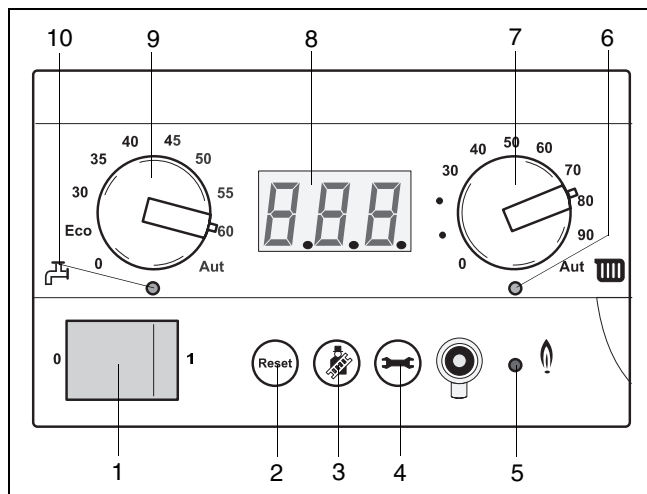

fig. 37 BC10
Mains switch (→ fig. 37, item 1)
Reset button (→ fig. 37, item 2)
Chimney sweep button (→ fig. 37, item 3)
Service Button (→ fig. 37, item 4)
LED "burner on" (→ fig. 37, item 5)
Setting the flow temperature (→ fig. 37, item 7)
The knob with the radiator symbol (→ fig. 37, item 7) allows the installer to set the maximum flow temperature (→ table 4). When the boiler is in operation for central heating then the LED "CH operation" (→ fig. 37, item 6) is lit.
Setting the domestic hot water temperature (→ fig. 37, item 9)
Turn the knob with the tap symbol (→ fig. 37, item 9) to the desired temperature for your domestic hot water (→ table 5).
When the boiler is in operation for domestic hot water, the LED "DHW operation is on" (→ fig. 37, item 10) is lit.